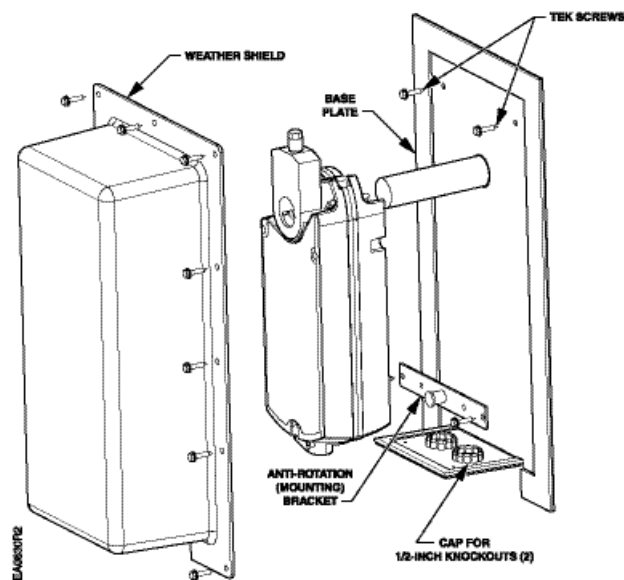

Figure 4. Mounting the Actuator in Weather Shield for Both Models.
2. Use two TEK screws to hold the base plate to the damper for further assembly. See Figure 4.